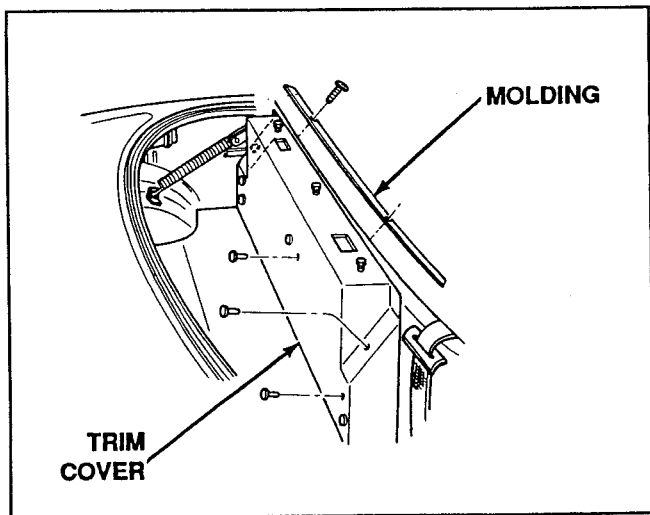

Figure 51. Remove Cover to Adjust Latches
2. Remove the molding and trim cover (Fig. 51).